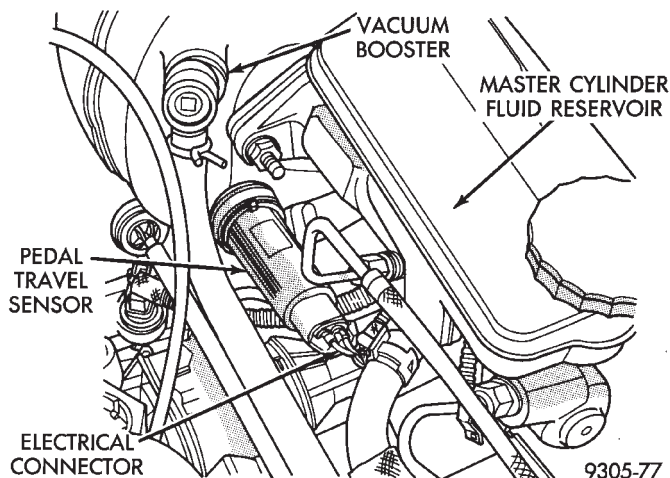

Fig. 1 Pedal Travel Sensor Location
The pedal travel sensor (Fig. 1) provides information to the (CAB) on the position of the brake pedal while stopping the vehicle. It is an input which is used by the Anti-Lock brake system to control pump motor operation.
(1) Pump the brake pedal approximately 20 times to evacuate all stored vacuum from the vacuum booster.
(2) Remove the wiring harness electrical connector (Fig. 1) from the end of the pedal travel sensor.